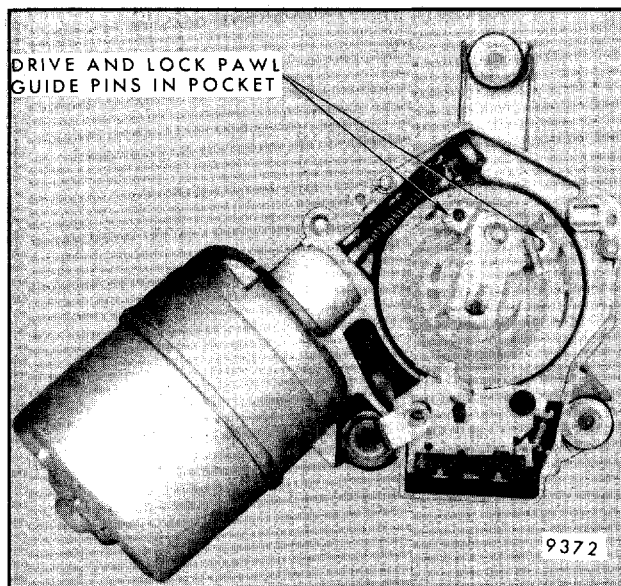

Fig. 2-25-Gear in Normal Run Position
1. The relay switch coil circuit is opened and this allows the spring-loaded latch arm to move out into the path of the gear drive pawl. The relay switch contacts, however, are still closed at this stage of operation and the wiper motor continues to run (Fig. 2-25).